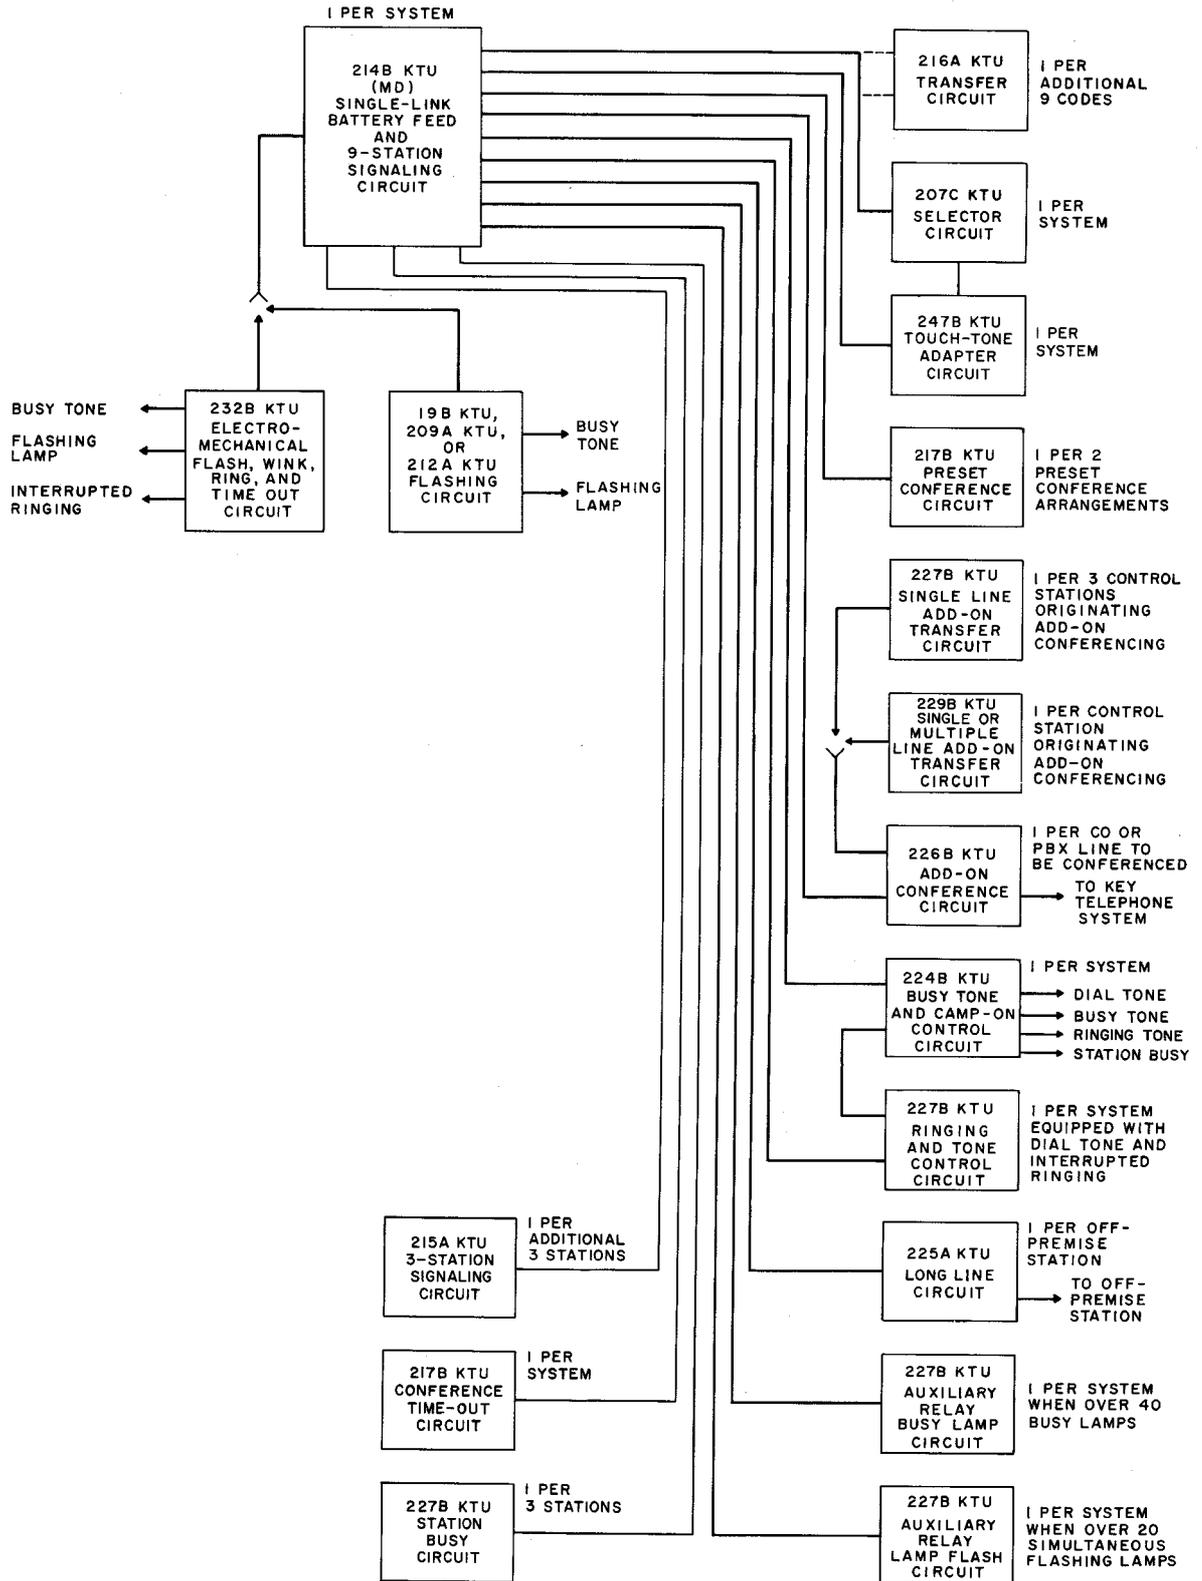

Fig. 2—Single-Link Arrangement Using 214B KTU (MD)
**2.04** The single talking link arrangement (Fig. 2 or 3) provides for:
- (g) TOUCH-TONE dial station selection utilizing the 247A (MD) or B KTU.